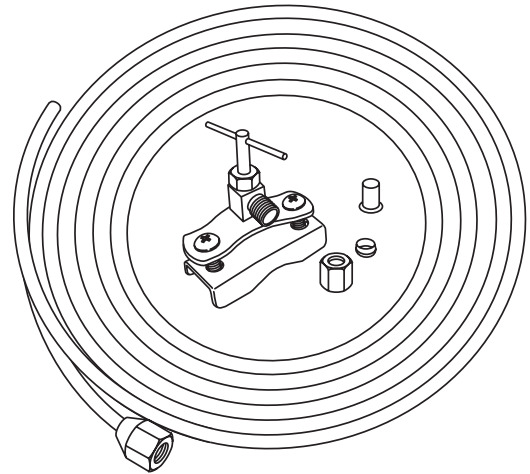

Figure 22
- Use a 1/4" OD copper line to connect the water supply to the solenoid valve. Allow extra length to the water supply line to provide slack for easy removal and to prevent the line from kinking. ***This is not supplied with the appliance (Figure 22).***